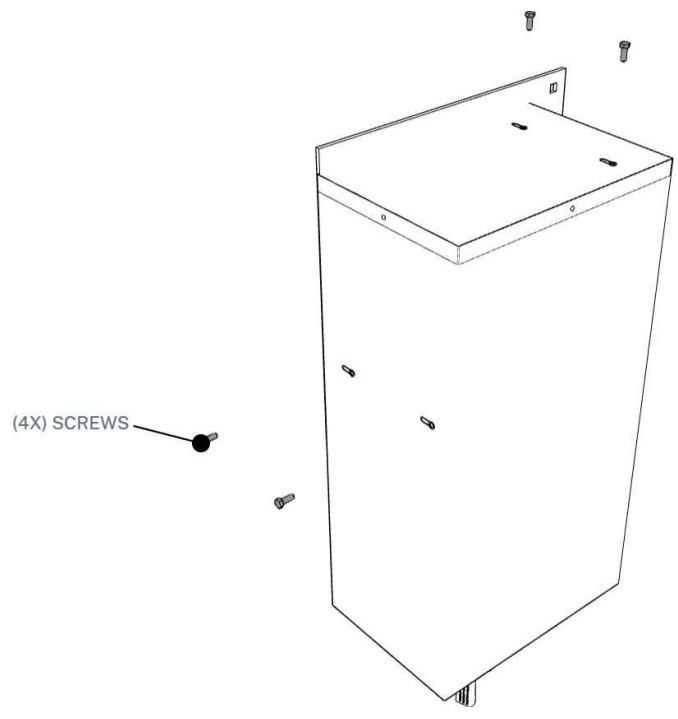

Figure 3 – Bolting Upper Cover
4. Bolt the **FRONT/TOP COVER** to the **HOOD MOUNT BRACKETS** using the provided (4) 1/4-20 x 0.75" screws, shown in **Figure 3**. Route the wiring flexible conduit and the controller cable through the rear access hole after installation.